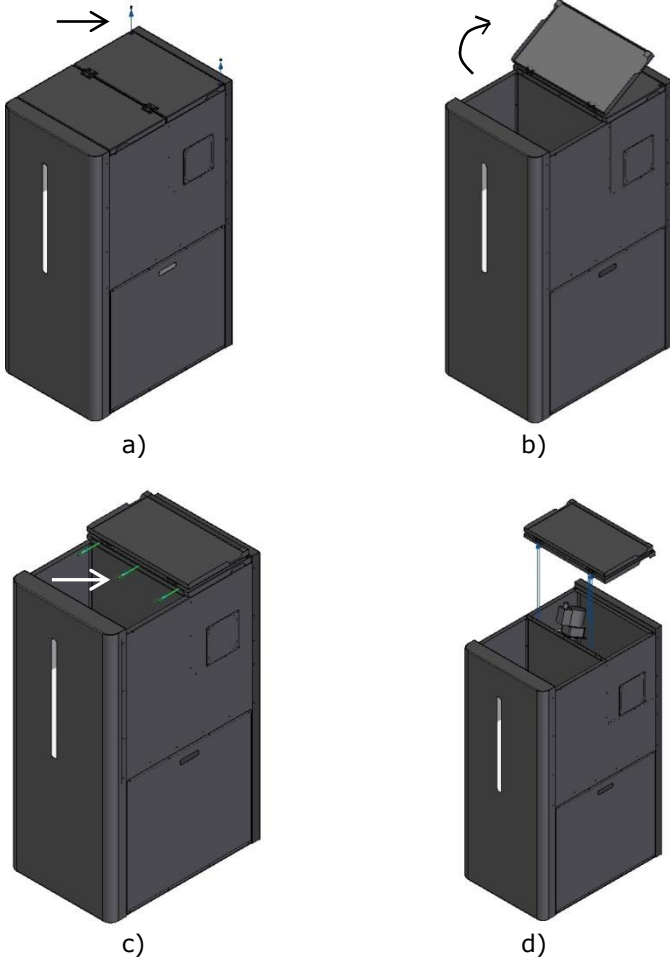

Figure 39 – Removing the upper lids
- 1 - First, remove the upper lids by loosening and removing the two retaining screws on the rear (Figure 39-a). Then, open the front lid and remove the 3 screws (Figure 39-c) that hold the lids in place.